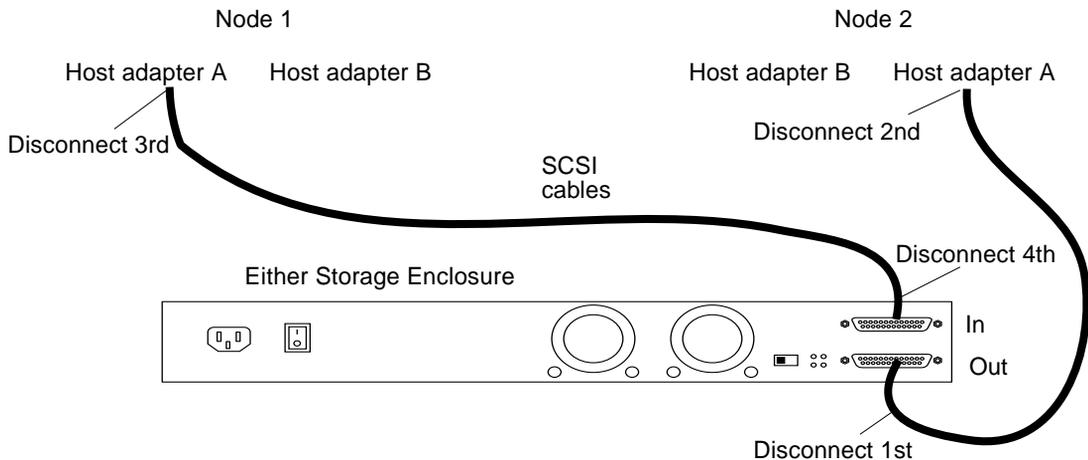

FIGURE 10-8 Disconnecting the SCSI cables
2. **Disconnect the SCSI cables from the Netra D130/StorEdge S1 enclosures, disconnecting them in the order shown in FIGURE 10-8.**